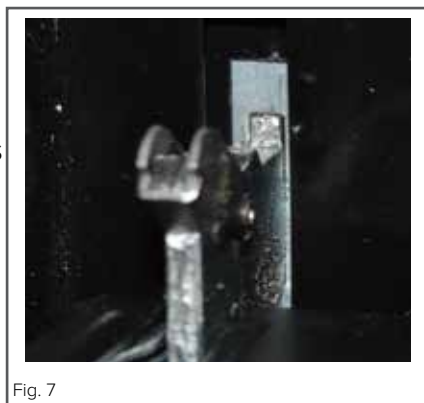

Fig. 7
- Next, ensure the notch on the underside of the hinge sits on the lip of the hinge slot. Open the door fully. Each hinge should be seated in the same way as the hinge in fig. 7. If it is not, follow the steps for removing the door and try replacing it again.